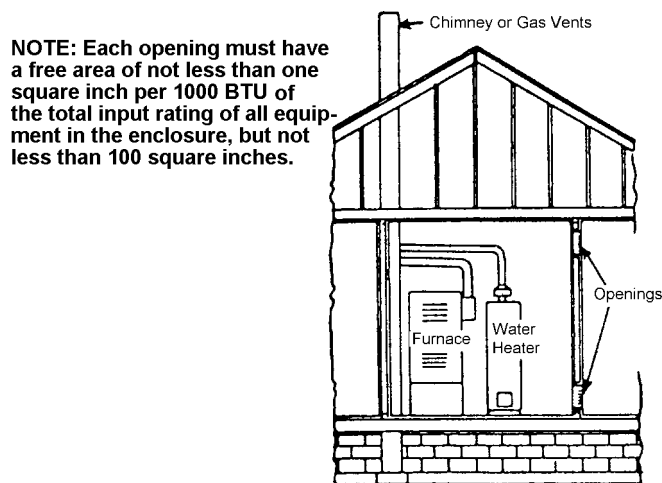

Figure 1
- (a) *All Air from Inside the Building:* The confined space shall be provided with two permanent openings communicating directly with an additional room(s) of sufficient volume so that the combined volume of all spaces meets the criteria for an unconfined space. The total input of all gas utilization equipment installed in the combined space shall be considered in making this determination. Each opening shall have a minimum free area of 1 square inch per 1,000 BTU per hour of the total input rating of all gas utilization equipment in the confined space, but not less than 100 square inches. One opening shall be within 12 inches of the top and one within 12 inches of the bottom of the enclosure (See Figure 1).